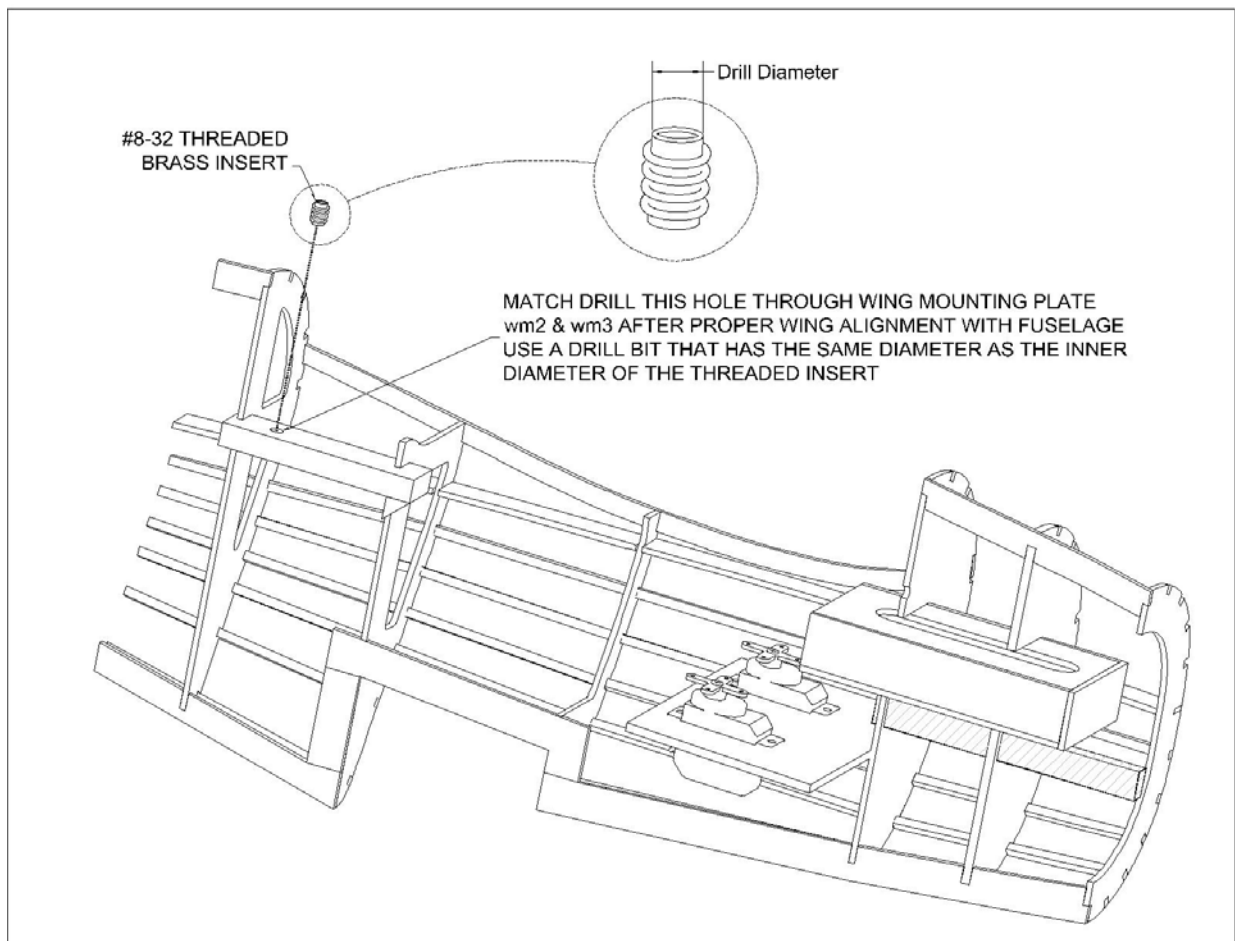

Figure 11
- ❑ Using the holes in **wm2** and **wm3** to align the drill bit, match drill a hole through the 1/4"x1/2" balsa wing mounting block. The diameter of the drill bit should match the inner diameter of the threaded brass insert. See Figure 11.